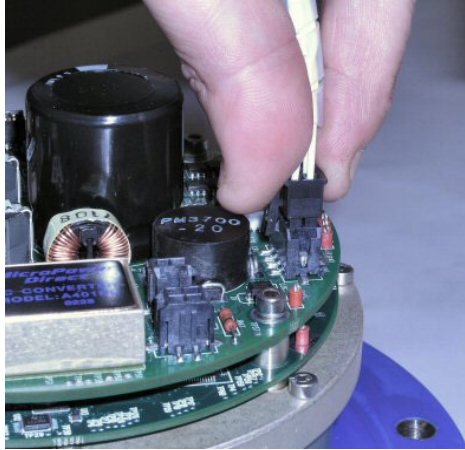

Figure 17. Disconnecting the Internal I/O Cable
7. Squeeze the sides of the internal I/O cable connector to release it from the jack (see Figure 17). Set the housing assembly aside.